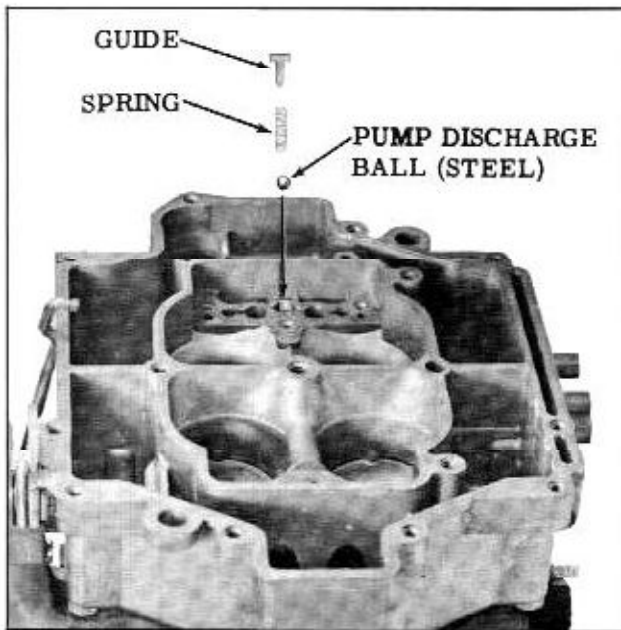

Fig. 8-112 Pump Discharge Spring Guide
14. Remove the small "T" shaped pump discharge spring guide with needle nose pliers, then remove the small spring and steel ball. (Fig. 8-112)